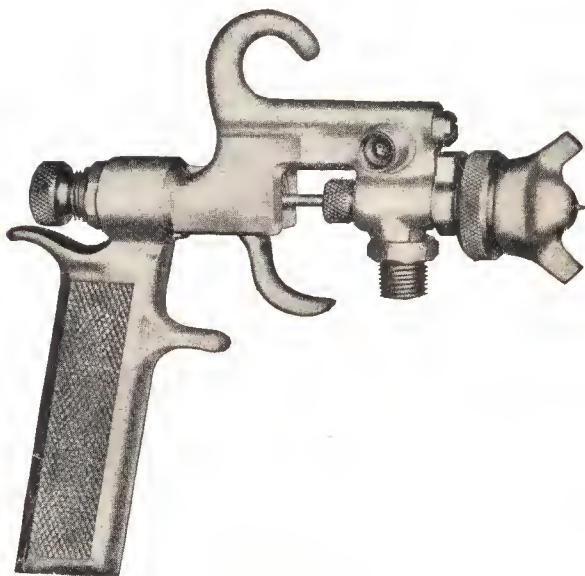

FIG. 53
**Paint Spraying Machines:** Figures 53, 54 and  $54\frac{1}{2}$  show the equipment used in painting by means of the compressed air spraying equipment. It consists of a gasoline engine, or electric motor driven portable air com-